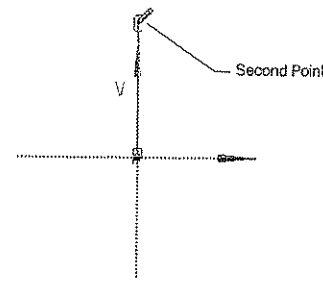

Figure 3-59 Specifying the end point of the line
14. Move the cursor upward along the axis such that the symbol of Vertical constraint (V) is displayed along the path of the cursor. Move the cursor to some distance along the Y axis and then click to specify the end point of line, as shown in Figure 3-59. The line is created and is displayed in blue color indicating that it is fully constrained.